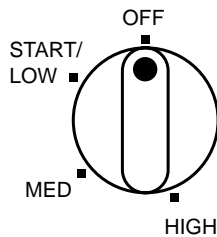

Figure 8 - Control Knob Positions
6. Turn control knob to the low position and push in (see Figure 8 and 9, page 6). Hold knob in and push piezo ignitor button. You may need to push piezo ignitor button 3-8 times until the main burner lights. When main burner lights, keep automatic control valve knob pushed in. Release button after 30 seconds.